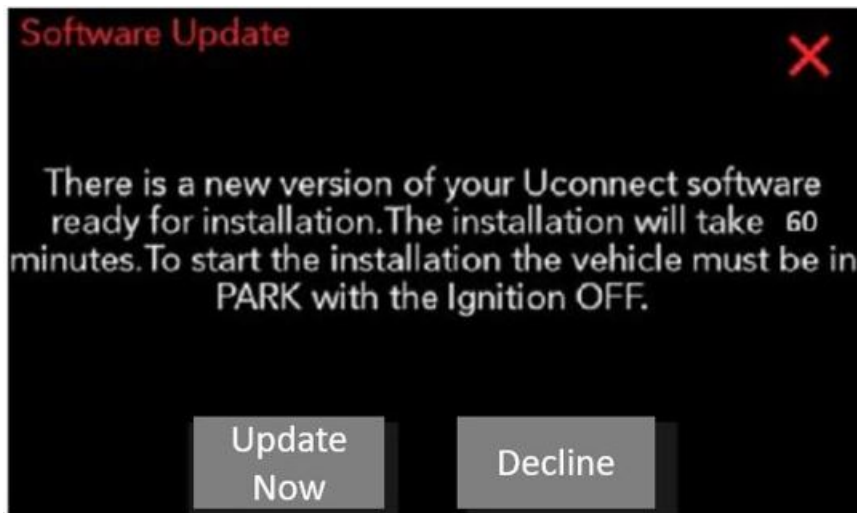

Fig. 6
12. Once the system has verified there is an available update, press the “Update Now” button. Make sure the vehicle is in park, **DO NOT** turn off the ignition (Fig. 6) .